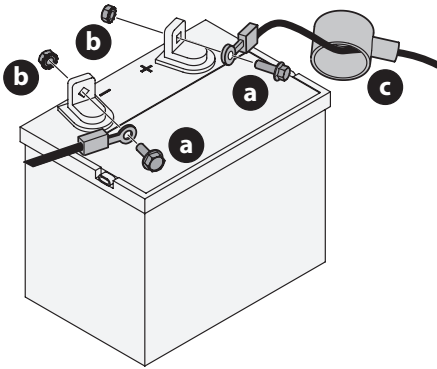

Fig. 12
1. If present, remove the plastic cover from the positive battery terminal. Attach the red connector to the positive battery terminal (+) using the bolt (a) and hex nut (b) (Fig. 12).
2. Position the red rubber boot (c) over the positive battery terminal to help protect it from corrosion (Fig. 12).
3. If present, remove the plastic cover from the negative battery terminal and attach the black cable to the negative battery terminal (-) with the bolt (a) and hex nut (b) (Fig. 12).